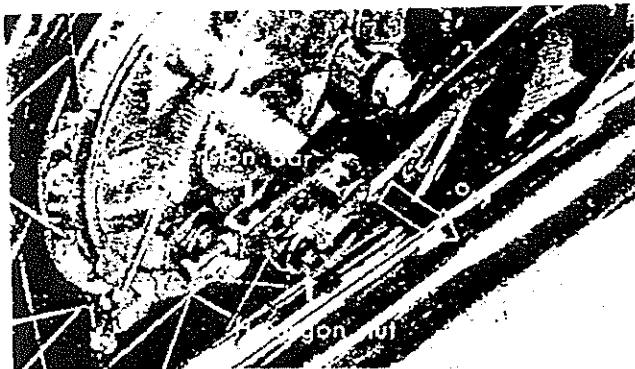

Fig. 41
- d) Unscrew the smaller axle nut on left side (The big nut need not be touched.) Withdraw axle shaft and pull the wheel off the rear wheel coupling flange with both hands. (Fig. 41)